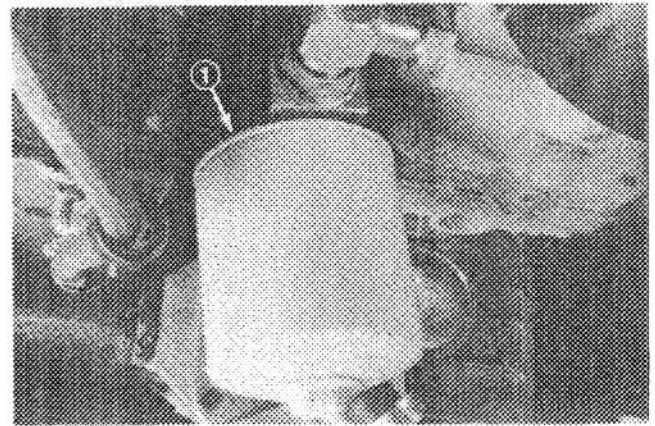

Figure 64
1. Clean area where hydraulic oil filter mounts. Remove filter from base (Fig. 64) and clean filter mounting surface.